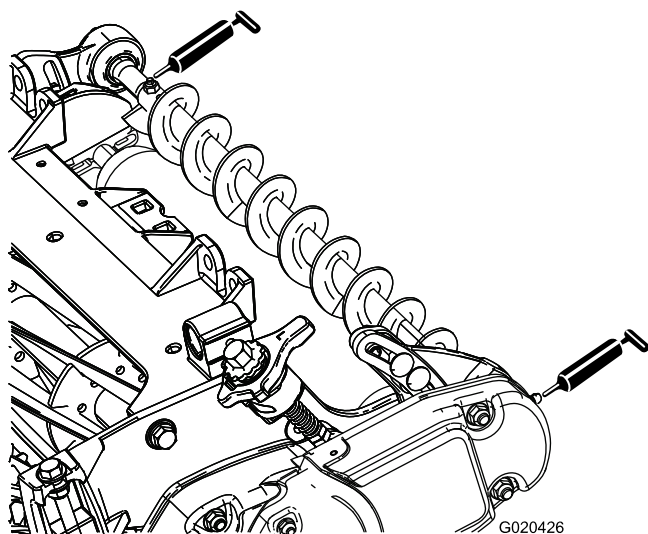

Figure 15
4. Lubricate the grease fittings on each of the roller-brush bearing housings and on the remainder of the cutting unit with No. 2 lithium grease (Figure 15).